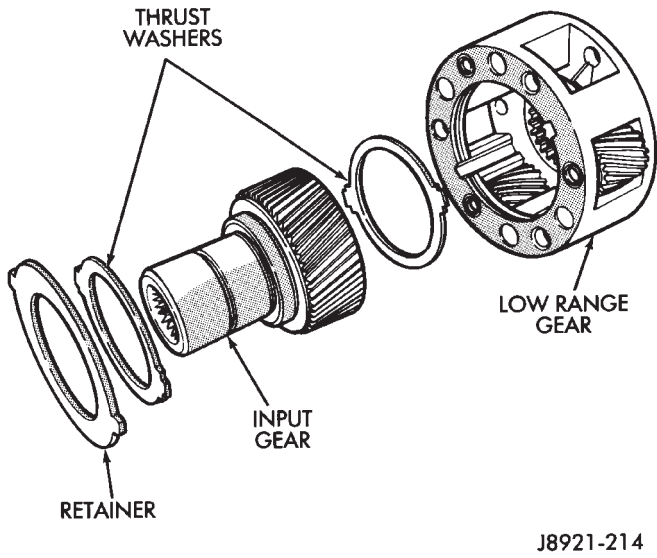

Fig. 49 Low Range And Input Gear Assembly
(11) Assemble low range gear, input gear thrust washers, input gear and input gear retainer (Fig. 49).